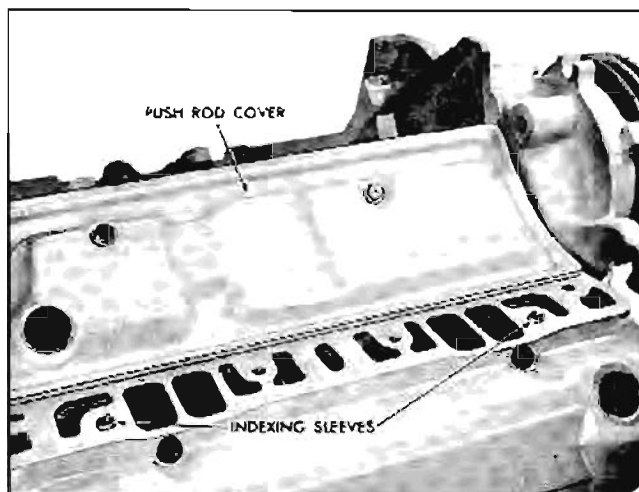

Fig. 6-16 Manifold Gasket Indexing Sleeves
1. Position new gasket over locating sleeves in cylinder head (Fig. 6-16). Replace "O" ring seal in recess at front of manifold.